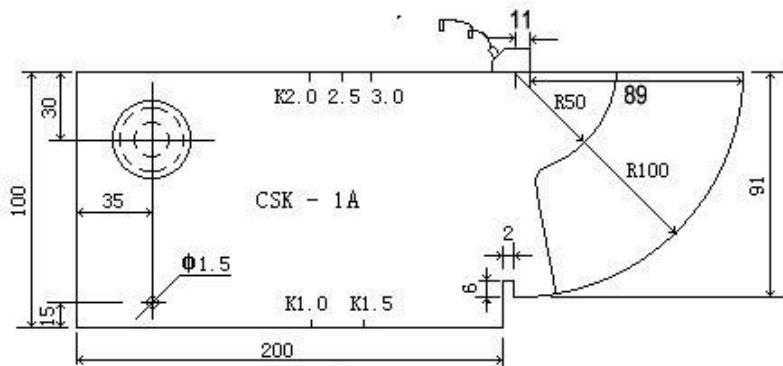
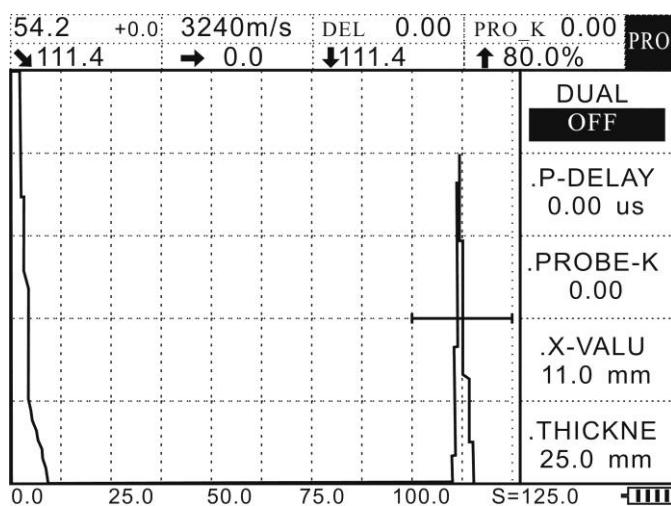

Figure 4-4
Figure 4-5
3. Calibrate the front edge of the probe: put the probe on the test block and move it till the reflector echo of the hollows of R100mm reach the highest level, measure 89mm of the front face of the probe with a ruler, at this point, the front edge value of the probe is: $100 - 89 = 11$ mm. As shown in Figure 4-4, after that, press **PROBE** to enter the probe menu, then press **▲** (up) or **▼** (down) to select the probe front edge submenu, **▶** press **◀** (left) or **▶** (right) to set the probe front edge value as 11mm, as shown in Figure 4-5.